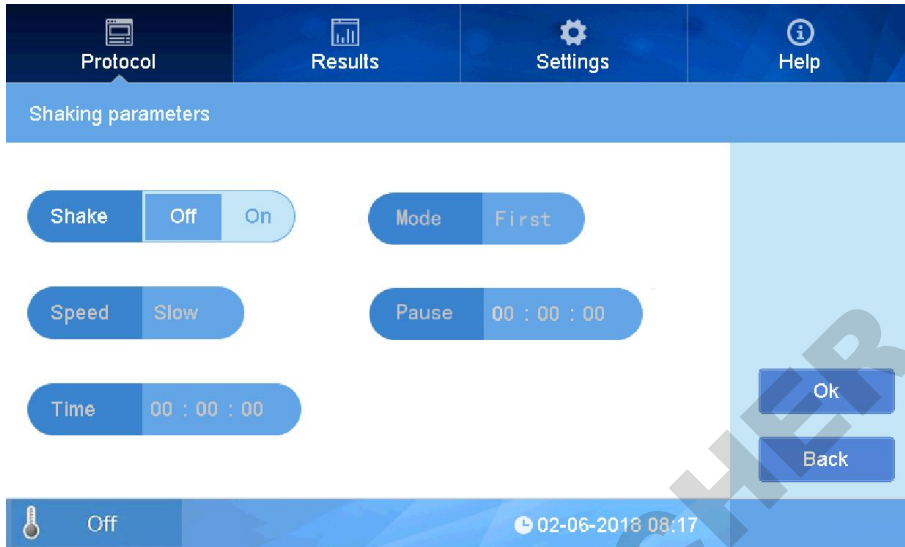

fig 23
- Click button right beside “Shake” to choose “On” or “Off”(Fig 23).